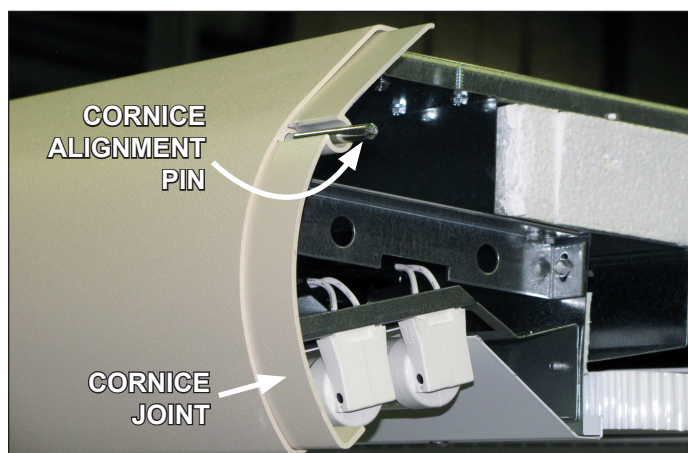

Fig. 5 Cornice joints
7. Tighten all cornice joints as needed (Fig. 5). Working outward from the center of the line-up, loosen the fasteners on the top and slide the cornices in one direction so that each joint aligns tightly together. Tighten the fasteners on top and apply an external joint band on the extreme ends of the lineup if a gap exists.